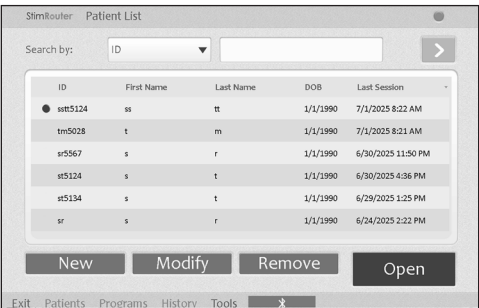

Figure 7-4: Opening a Patient Record
1. From the Patient List, select a patient and press the "Open" button. **See Figure 7-4.**